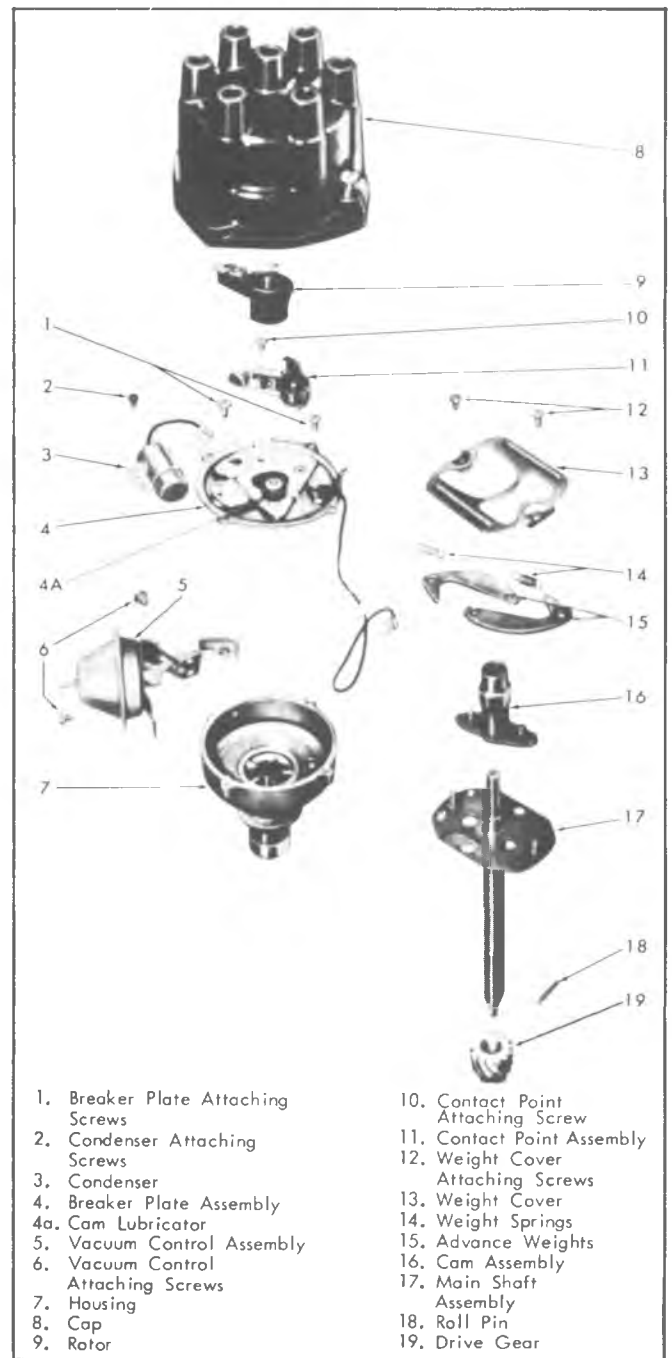

Fig. 19i—L-6 Distributor - Exploded View
**Six Cylinder Engines (Fig. 19i)**
**Assembly****Six Cylinder Engine (Fig. 19i)**